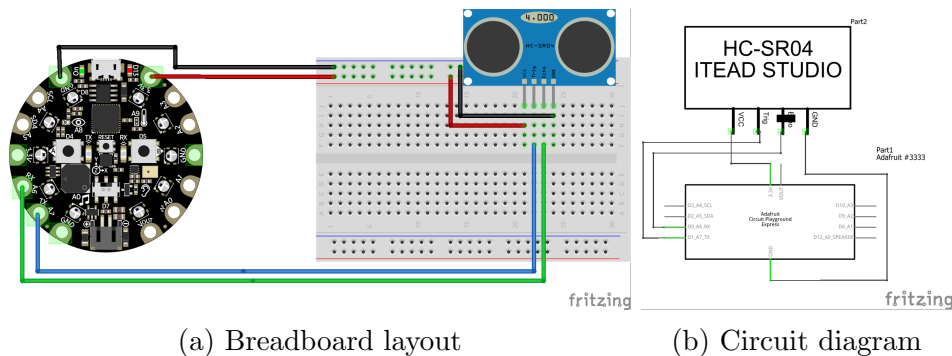

Figure 1: Diagrams for attaching external proximity sensor to CPX
1. Connect the proximity sensor to the CPX as shown in Figure 1.